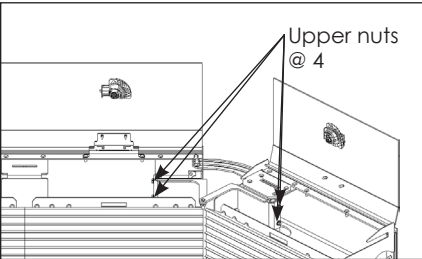
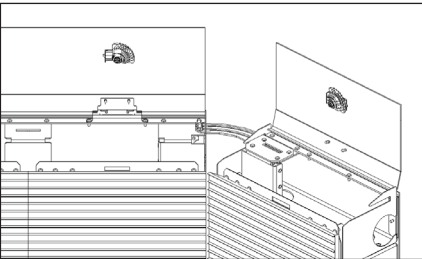

Figure 23: Remove Top Hinge
Figure 24: Top Hinge Removed
5. Remove the self-tapping screws securing the top hinge into place and remove the top hinge. This needs to be removed to allow the beverage shrouds to close completely and the module pans to slide out. Refer to **Figure 23** and **Figure 24**.